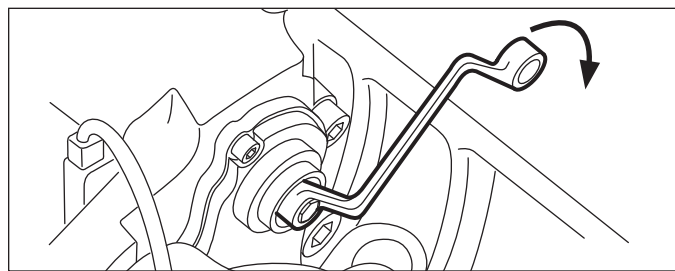

FIGURE 21 - APPLYING MODERATE APPLICATIONS OF THE BRAKES: THE WRENCH MOVES CLOCKWISE AS THE RUNNING CLEARANCE IS DIMINISHED
- 4.2.3 Where the adjuster mechanism is able to be backed-off normally, position a box-end wrench on the shear adapter so that it can turn clockwise freely without coming into contact with parts of the vehicle (See Figure 21). Make five to ten moderate applications of the brakes [at about 30 psi (2 Bar)], and observe that the box-end wrench or socket should turn clockwise in small increments.